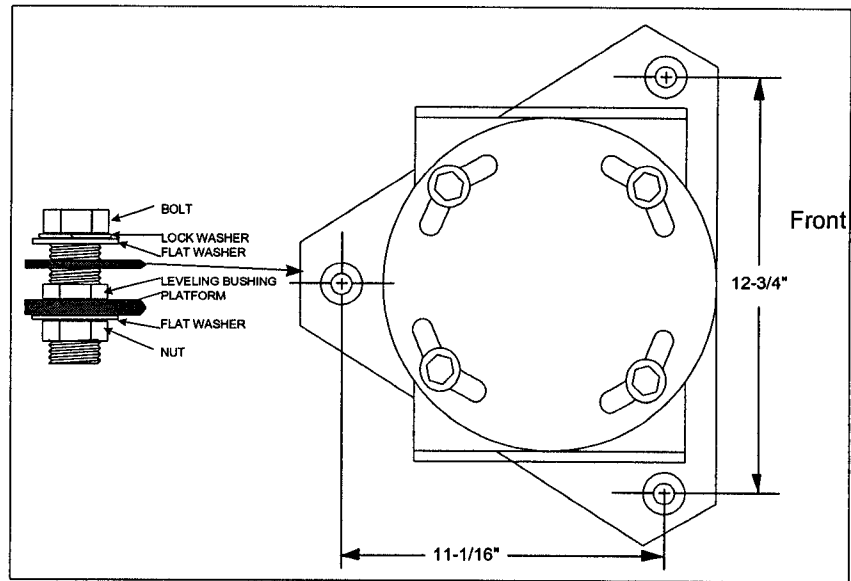

Figure 4-7
- a.     The net weight of the lantern unpacked, is 160 pounds. Therefore, weight handling equipment will be needed at the aid to facilitate installation. The lantern must be installed on a stable platform to ensure that accurate aim is maintained. The lantern is secured to the platform using 1/2" bolts, as shown in Figure 4-7. Leveling bushings are provided in the base to assist in leveling the lantern. Slots in the base allow the beacon to be aimed.